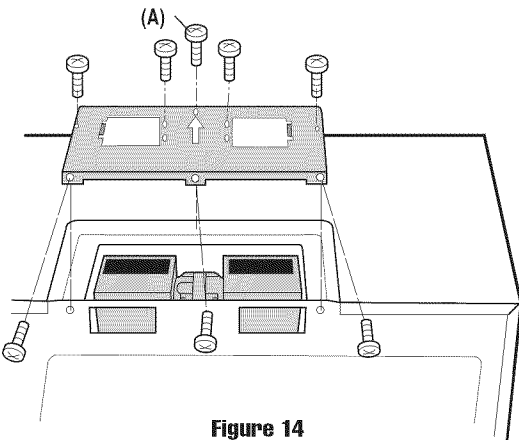

Figure 14
4. Replace the Fan Cover Bracket by sliding it into the slits in the same direction as the arrow on the Fan Cover Bracket. Make sure the fan blades are visible through the top openings in the oven before proceeding. See Figure 14 on page 6.
5. Attach the Fan Cover Bracket to unit with the 3 screws from back edge and 4 screws except screw (A) from the top of the Fan Cover Bracket, which were removed at Step 1 above. See Figure 14 on page 6. Screw (A) will be used at MOUNTING OVEN THE WALL Step 5 on page 7. The Hood Fan Unit is now rotated for vertical exhaust operation.